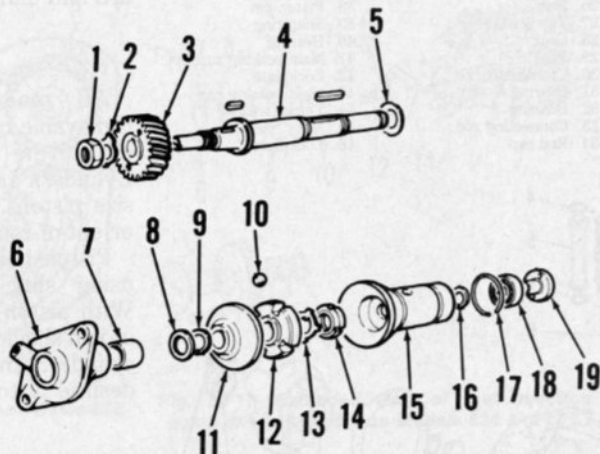

Fig. L3-24—Exploded view of governor and throttle linkage.
Refer to Figs. L3-23 and L3-24 for exploded views of flyball type governor and control linkage. Governor sleeve (15—Fig. L3-23) slides on governor shaft (4) according to flyball (10) movement, and forces spindle (19) to contact governor arm (27—Fig. L3-24). The control rack pin of the fuel injection pump engages the fork in governor arm (27). Throttle lever (47) operates through
To synchronize governor linkage with fuel injection pump, remove cover (45—Fig. L3-24) and loosen nuts (N—Fig. L3-25) securing eccentric (39). Fully rotate eccentric in counter-clockwise direction. With fuel injection pump removed, install tool (T) number 7276-2003-04 on Model 832 or number 7277-2003-05 on Model 833 so tool roller (R) engages fork on governor arm (27). Rotate eccentric (39) until all play is removed from governor but tool roller (R) is still free in fork. Tighten nuts (N), remove tool and install fuel injection pump.
Start spring (25—Fig. L3-24) allows maximum fuel delivery when starting engine. Spring free length should be 42 mm.
Torque control screw (C—Fig. L3-24) allows additional fuel usage under high torque load. The torque control screw has a spring loaded tip which contacts lever (41). Torque control screw must match governed speed of engine. Check operation by measuring force needed to move tip the distance specified in the following table: